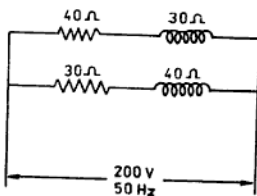

Fig. NE 11.34
- 11.34 The circuit shown in Fig. NE 11.34 is connected across a 200 V, 50 Hz supply. Calculate: